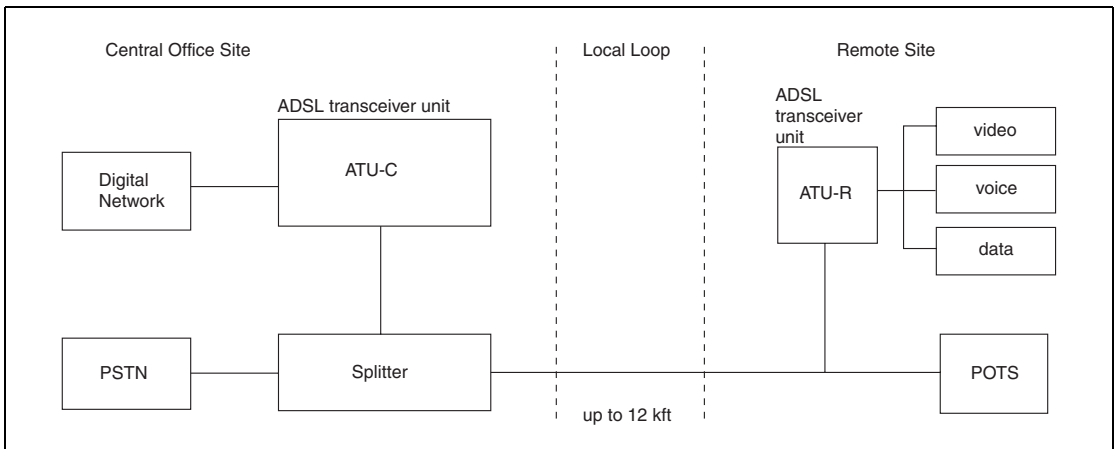

Figure 3.7 ADSL Overview
Transmission equipment should be protected against overvoltages that can exceed 2500 V and surge currents up to 500 A. In Figure 3.7 through Figure 3.17, *SIDACtor* devices were chosen because their associated peak pulse current ( $I_{PP}$ ) rating is sufficient to withstand the lightning immunity tests of GR 1089 without the additional use of series line impedance. Likewise, the fuse shown in Figure 3.7 through Figure 3.17 was chosen because the  $\text{amps}^2\text{time}$  ( $I^2t$ ) rating is sufficient to withstand the lightning immunity tests of GR 1089, but low enough to pass GR 1089 current limiting protector test and power cross conditions (both first and second levels).
Asymmetric Digital Subscriber Lines (ADSLs) employ transmission rates up to 6.144 Mbps from the Central Office Terminal (COT) to the Remote Terminal (RT) and up to 640 kbps from the RT to the COT at distances up to 12,000 feet. (Figure 3.7)